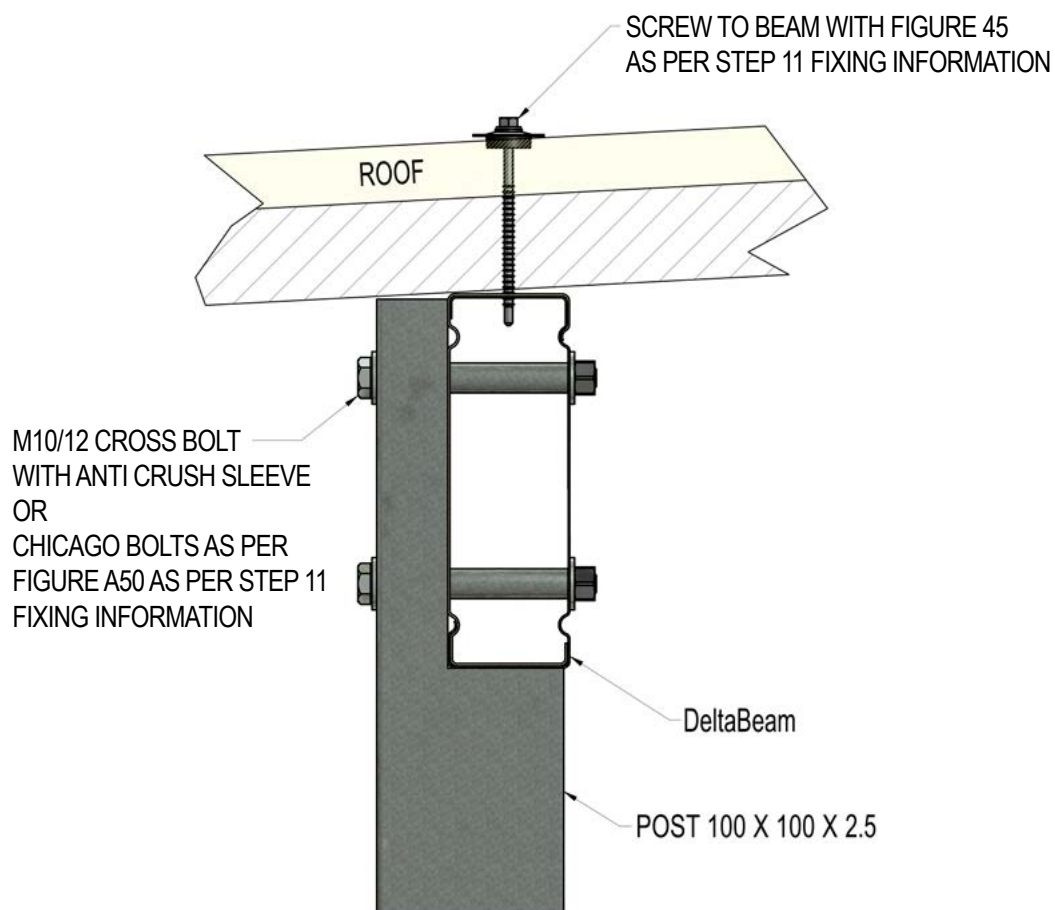

Figure A26
STEP 8**SELECT BEAM TO POST CONNECTION TYPE****Delta™ Steel or Aluminium Beam to Post (see Figure A26)**